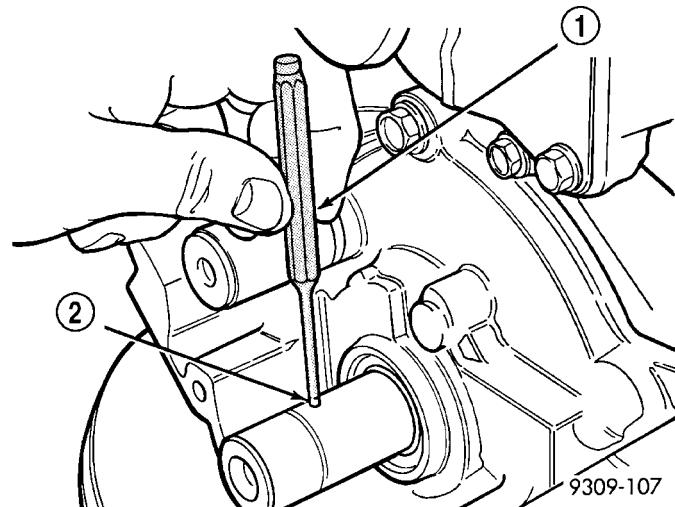

Fig. 72 Crankshaft Dowel Pin - Removal/Installation
(1) Remove the crankshaft sprocket. (Refer to 9 - ENGINE/VALVE TIMING/TIMING BELT/CHAIN AND SPROCKETS - REMOVAL)
(2) Tap the dowel pin out of the crankshaft (Fig. 72).
(2) Install the dowel pin into the crankshaft to 1.2 mm (0.047 in.) protrusion (Fig. 72).
(3) Install the crankshaft sprocket. (Refer to 9 - ENGINE/VALVE TIMING/TIMING BELT/CHAIN AND SPROCKETS - INSTALLATION)